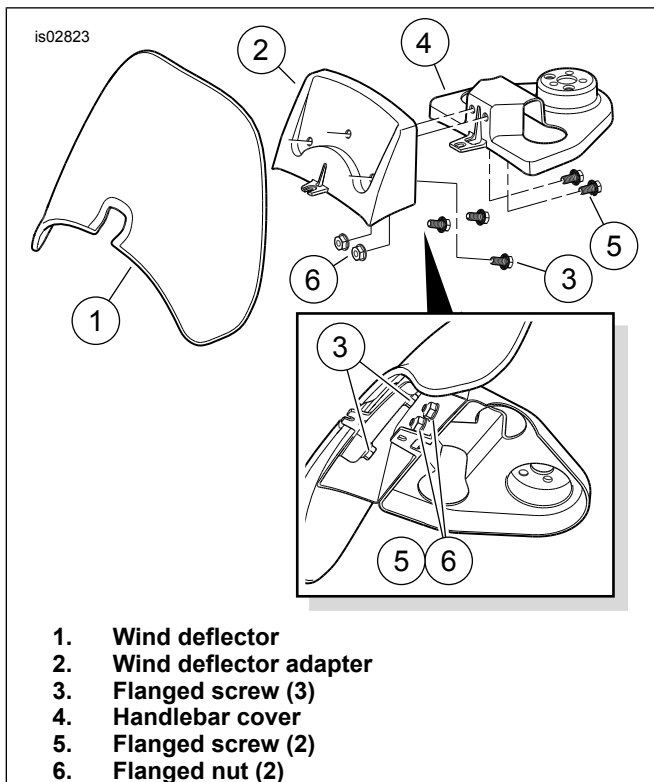

Figure 6. Handlebar Cover/ Wind Deflector Assembly (FL-HRS)
#### 4. **For FLHRS models,** see Figure 6.
12. Route the left side switch wire bundle through the switch housing similar to that shown in Figure 6 for the right side wiring. Gently feed the wire bundle into the left side switch wire hole. Pull the bundle down through the new handlebar and out through the wire exit hole near the bottom of the left side riser.